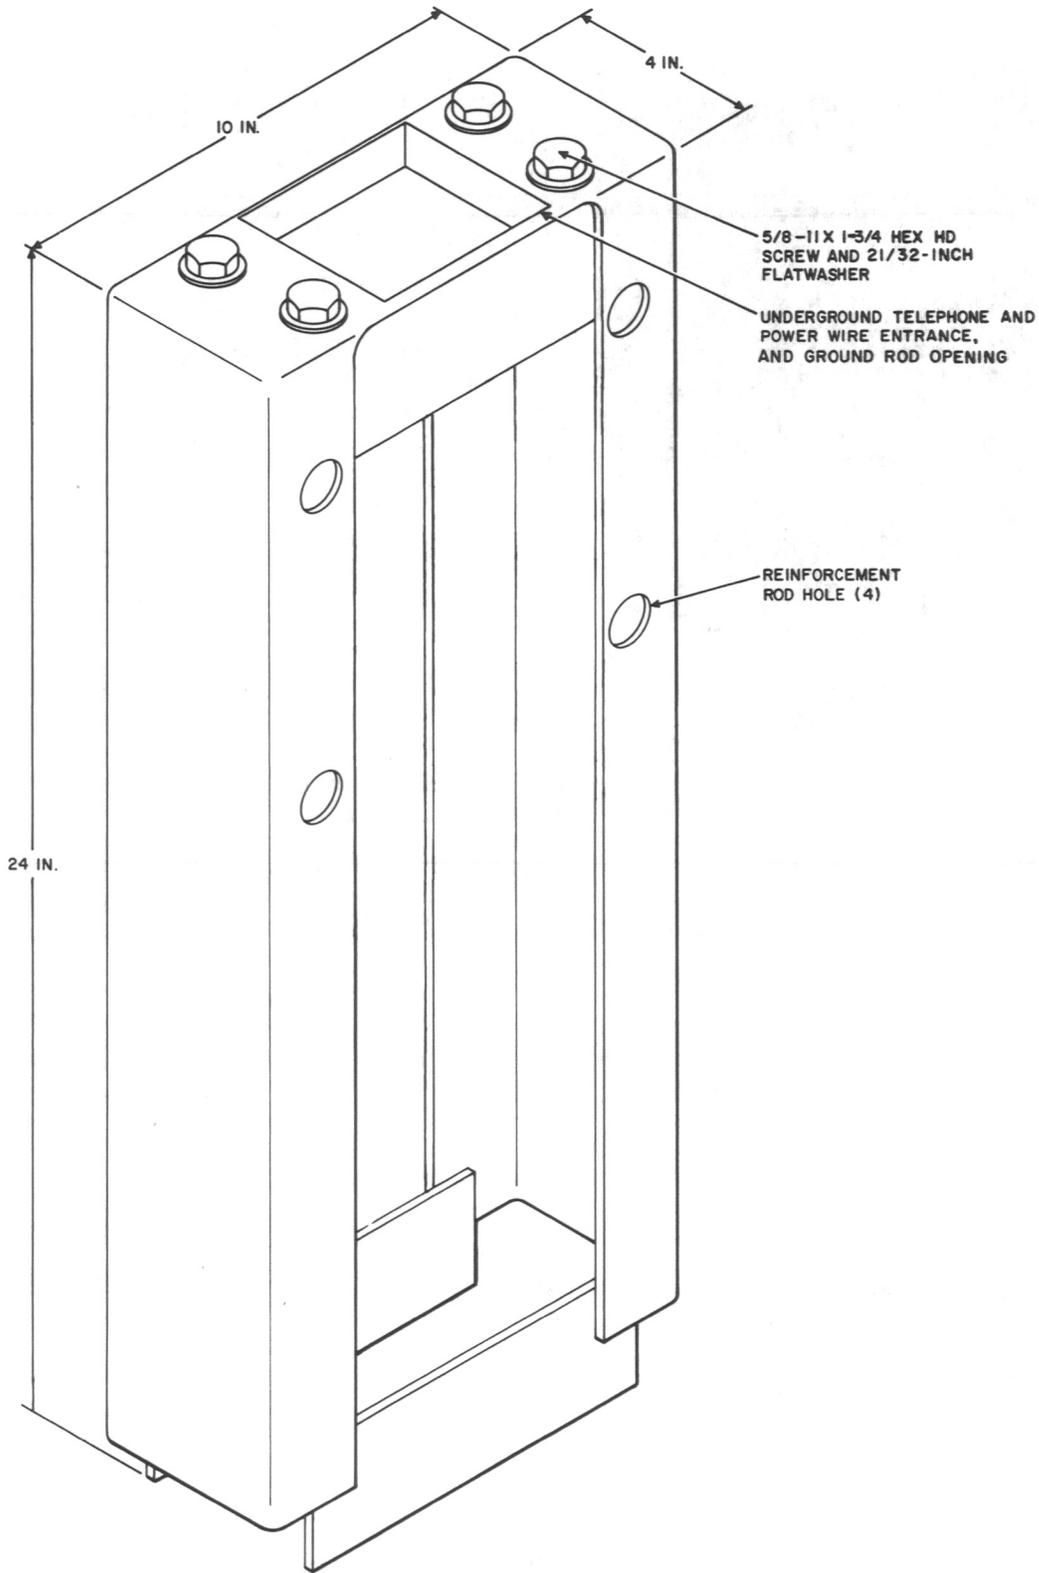

Fig. 13—List 52 (A&M Only) Buried Base
- 2.98** The List 52 buried base (Fig. 13) is intended to be used with the List 40, 41, or 43 posts at an installation where a proper mounting surface is not provided.
- (1) It is recommended that all new concrete foundations utilize a List 52 (A&M Only) or 152 buried base assembly where possible (Fig. 13 and 14).
3.06 List 52 (A&M only) Buried Base Assembly (Fig. 13):